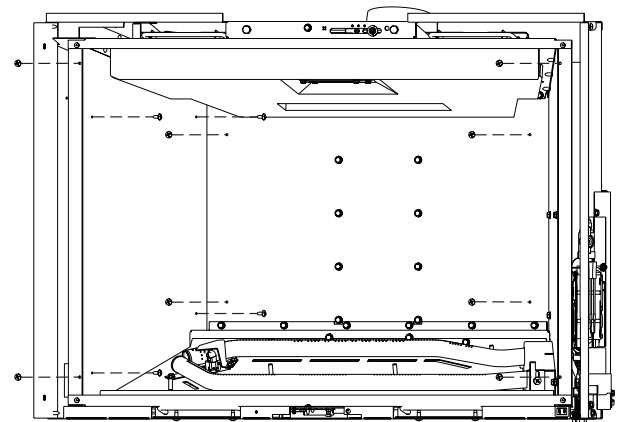

**Figure 5**
6. While holding ceramic fiber top liner, place liner bracket in position as shown. Insert three screws where shown. **See Figures 5 and 6.**